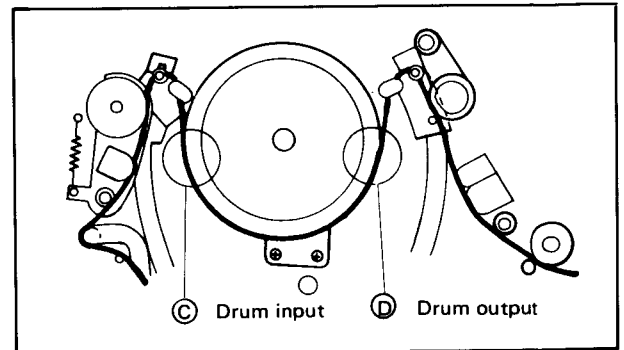
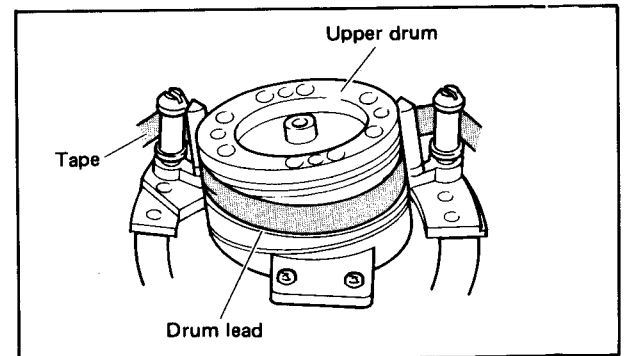

Fig. 4-39 Tape transport check
Fig. 4-40 Drum lead check-2
4. During Play mode, observe tape at the input and output portions (C and D in Fig. 4-39) of the head drum lead. Confirm that the tape slips neither upward nor downward with respect to the lead as shown in Fig. 4-40.